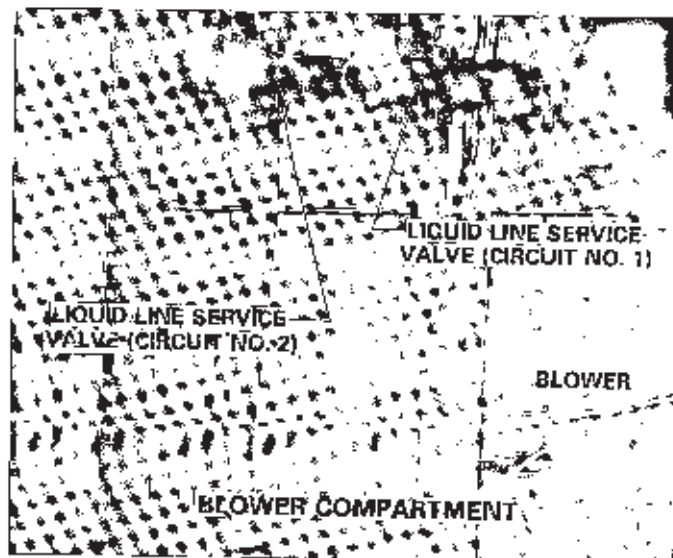
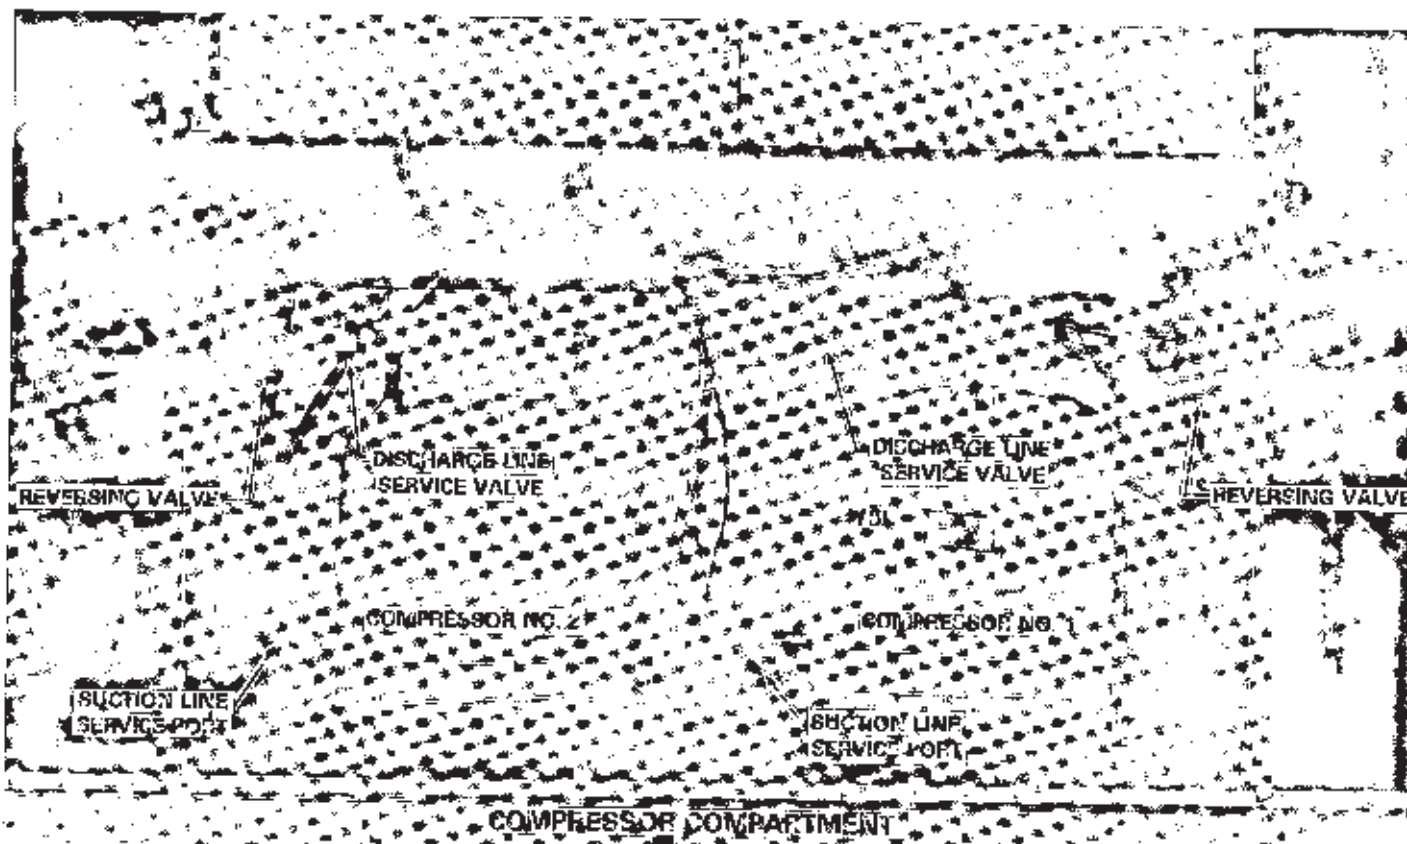

FIGURE 34
FIGURE 33
Refer to Figure 33 for component location and identification in the compressor compartment. Figure 34 shows the location of the liquid line service valves in the blower compartment.
- 1- Attach gauge manifold. Refer to Figure 33 for service valve identification.